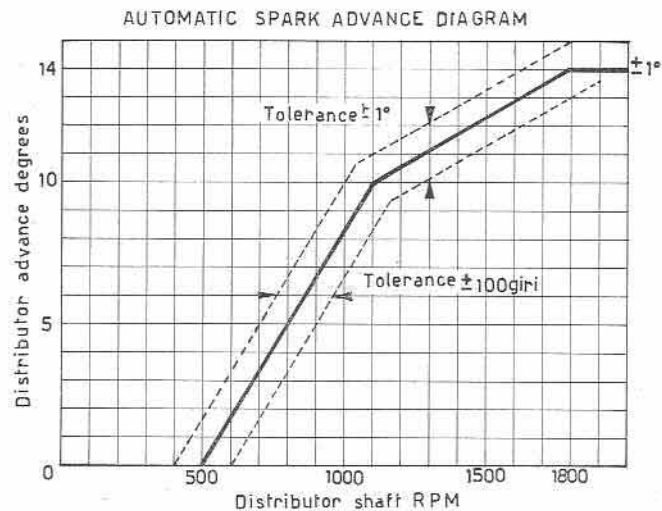

Fig. 122
- Automatic advance operating range: see diagram on Fig. 122.
to engine speed. Automation spark advance is then represented by a diagram (see Fig. 122) which shows the degrees of advance of the cam with respect to the speed of the distributor shaft.